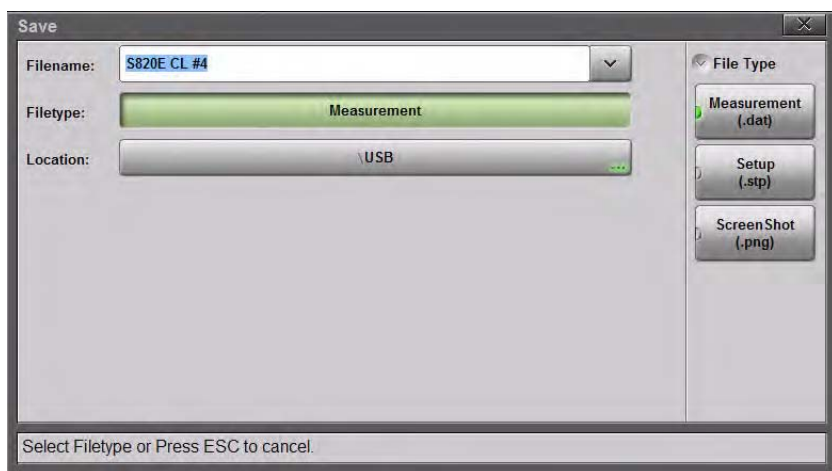

Figure 10-5. Set the File Type
In the Save dialog box (**File (7)** > **Save**), press **Filetype**, then select **Measurement**, **Setup**, or **ScreenShot** (Figure 10-5). The default file type is **Measurement**.
A Filetype extension (Figure 10-5) is automatically added to the Filename based on the chosen Filetype.